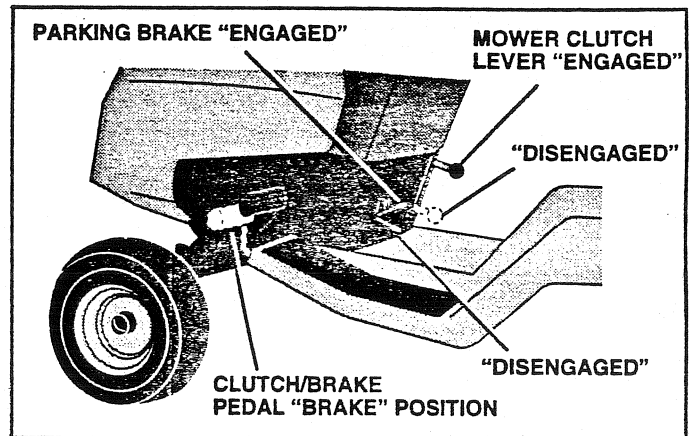

FIG. 8
- Slide seat until a comfortable position is reached which allows you to press clutch/brake pedal all the way down (See Fig. 8).
TO SET PARKING BRAKE (See Fig. 8)
STOPPING (See Figs. 8 and 9)
TO MOVE FORWARD AND BACKWARD (See Figs. 8 and 9)